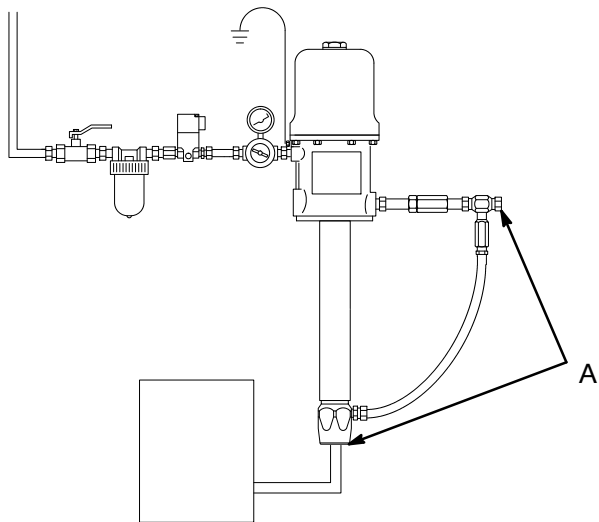

Fig. 20
A Pressure Relief Kit (A) is required in the Horizon system to reduce the risk of serious injury, caused by splashing fluid in the eyes or on the skin resulting from component rupture from over-pressurization. See Fig. 20. See page 80 to order the kit.
To reduce the risk of serious injury, the pressure relief valves (J) are required to prevent the system from over-pressurizing, which could be caused by thermal expansion of the fluids. See Fig. 20. See page 80 to order the valves.